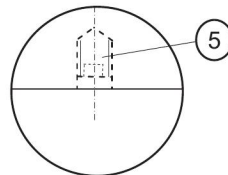

Abb.4
5. Screw the threaded pin M4 as far as the stop (fig.4)